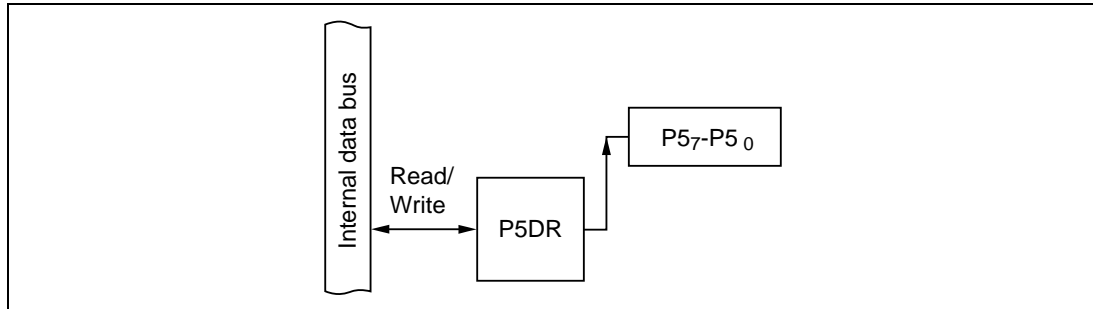

Figure 10-30 Output Port (Modes 1 to 7)
(2) Output Port (Modes 1 to 7): Figure 10-30 shows a block diagram illustrating the general-purpose output function. Table 10-22 indicates register read/write data. The value written in the port 5 data register (P5DR) is output at the pin. When read, P5DR returns the value written in P5DR.